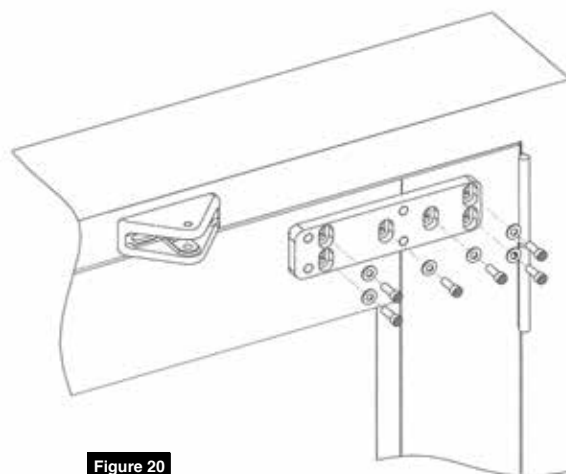

Figure 20
1. Install operator mounting bracket to door into holes marked in "Prepare Frame and Door" section on page 11. (Figure 20)